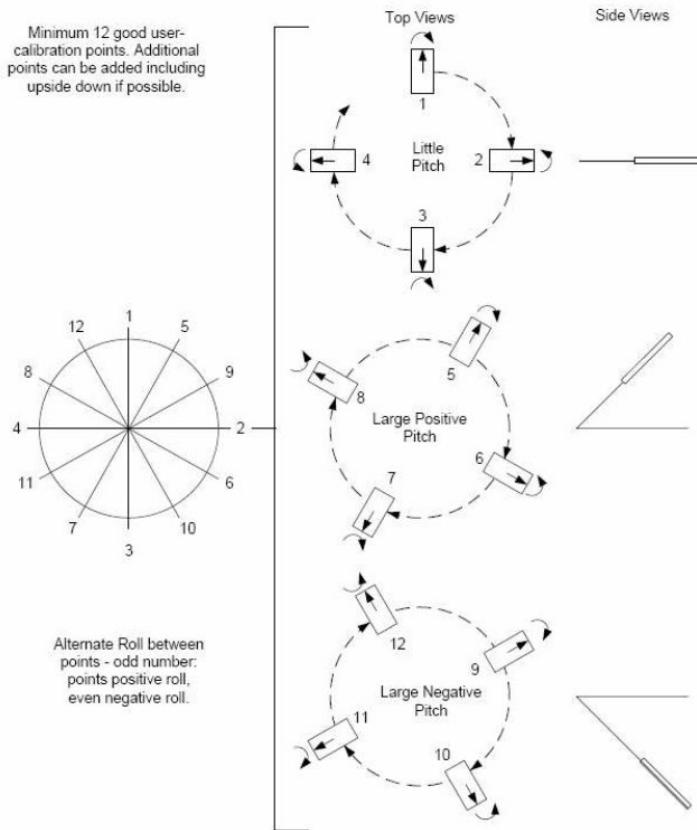

Figure 5-1: 12 Point Full Range Calibration
- Note that we recommend the Full Range Calibration. A Full Range Calibration is appropriate when the Trax can be tilted ±45° or more. This method compensates for hard and soft iron effects in three dimensions, and allows for the highest accuracy readings. The recommended 12 point calibration pattern is a series of 3 circles of evenly spaced points, as illustrated in Figure 5-1 and listed in Table 5-2. The pitch used in the second and third circles of the calibration should at least match the maximum and minimum pitch the device is expected to encounter in use.